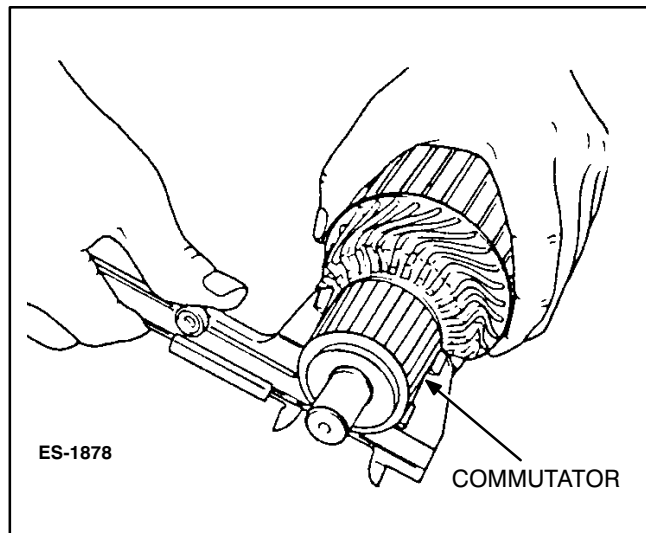

FIGURE 6-28. MEASURING COMMUTATOR O.D.
2. Measure the commutator O.D. at several points with a vernier caliper (Figure 6-28).